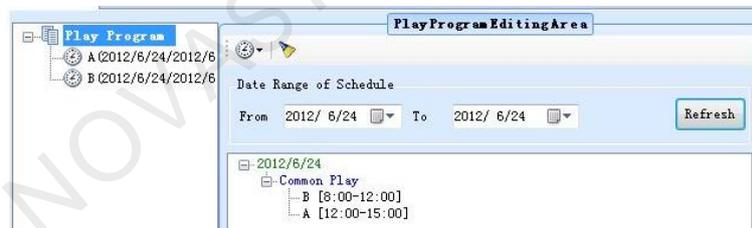

Fig. 10-11 B has higher priority than A
- Otherwise, if A is at the back of B in the play program, then A has the priority to be played on time conflict. The dispatching results will be shown as Fig. 10-11 (In June 24, 2012).